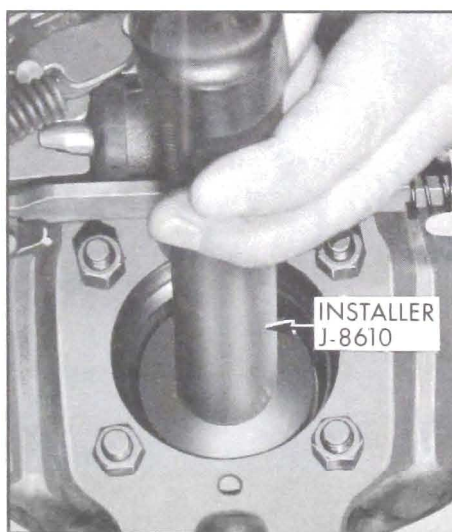

Figure 6-10—Installing Axle Shaft Seal
4. Position seal over Installer J-8610 and drive seal straight into axle housing until fully seated. See Figure 6-10.